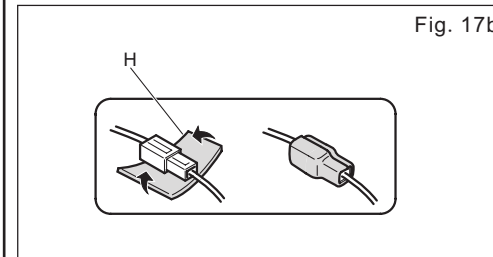

Fig. 17b
- b) Connect connector and apply the Urethane Foam tape H on the connect section, See in Fig. 17b.